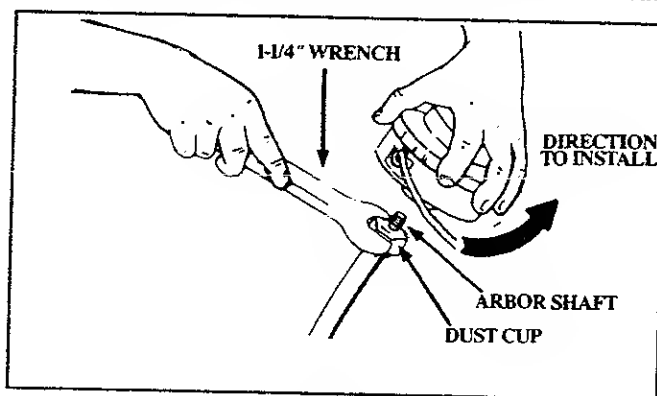

Figure 2
2. TRIMMER HEAD — Figure 2
- Hold the Dust Cup with a wrench to keep the Dust Cup from turning. Figure 2.
- Thread the Trimmer Head (as shown in Figure 2) onto the Arbor Shaft, against the Dust Cup, and as tight as possible with your hand.